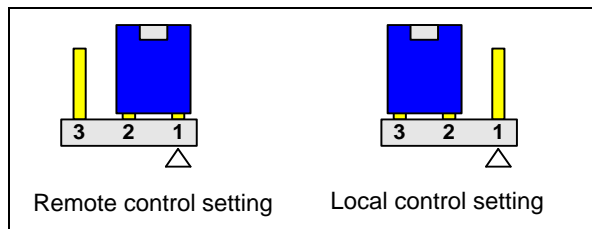

Figure 2-2. CJ1 Settings for Local and Remote Control
2. Place a jumper on pins 1 and 2 to set the module for **Remote** control, or pins 2 and 3 to set the module for **Local** control. See Figure 2-2.